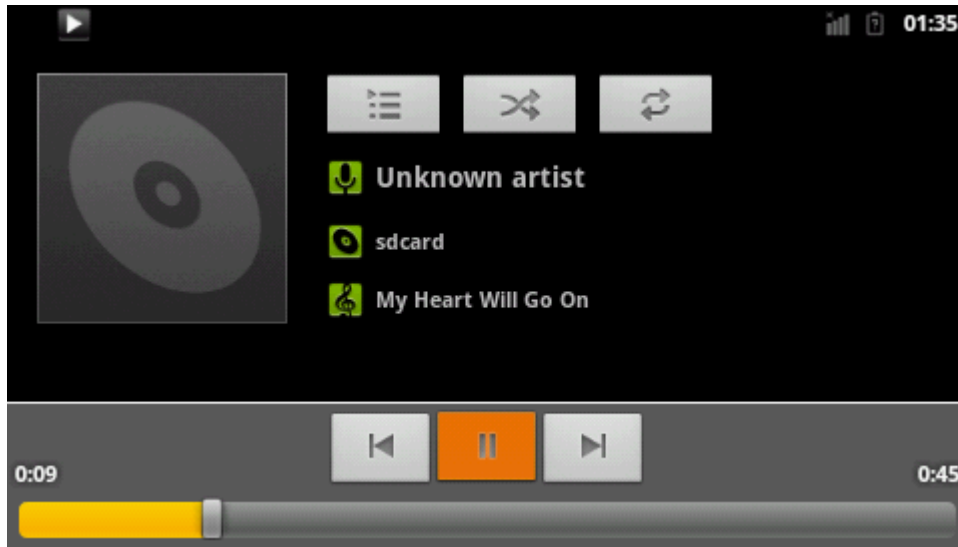

Figure 5-21
(4) The player interface is shown in figure 5-21: